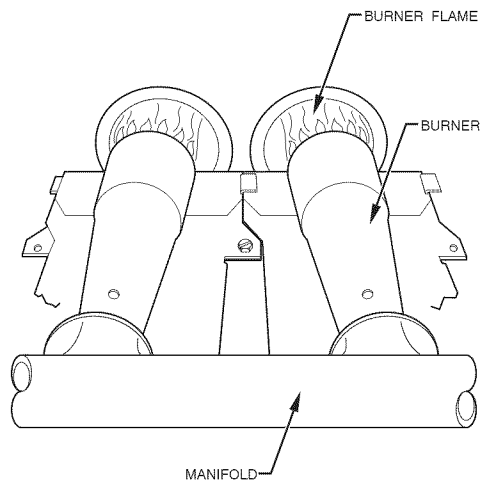

Fig. 11 – Burner Flame
- e. Replace burner enclosure front and verify adjusted gas input rate using method outlined in item 3.
- f. Look through sight glass in burner enclosure and check burner flame. Burner flame should be clear blue, almost transparent. (See Fig. 11.)
10. Check for correct burner flame. (See Fig. 11.)